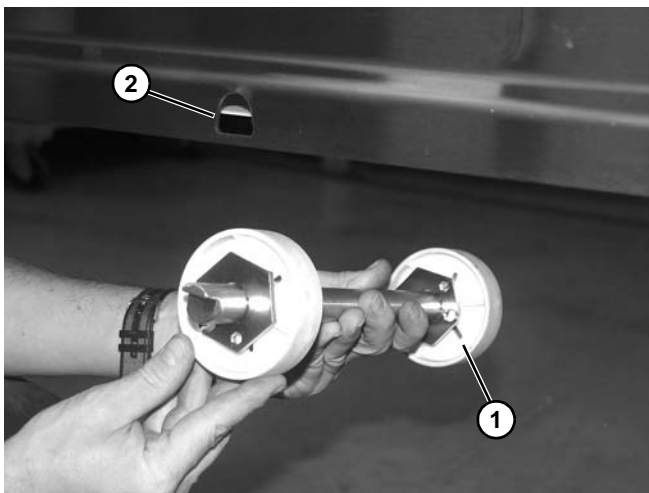

Figure 31
2. Remove belt returns (Figure 31, item 1) from slotted holes (Figure 31, item 2) on each side of conveyor frame at location you are separating belt.